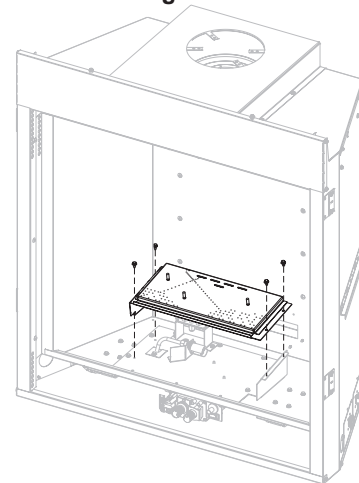

Figure 11
8. Remove the four screws securing burner and slide to right then lift burner off. **See Figure 11.**